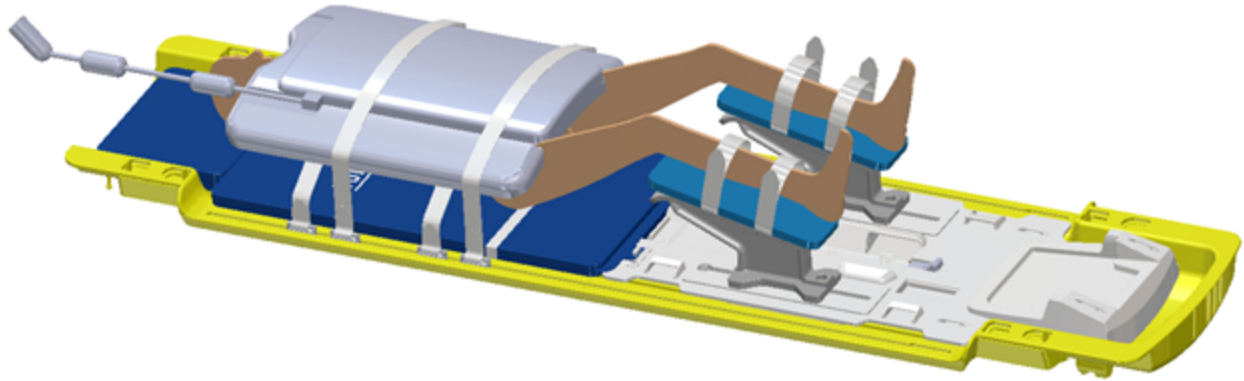

Figure 26: Placement of the anterior imaging coil
3. MRI Technologist: Strap the anterior imaging coil over the patient's pelvis and arms. The coil should cover the prostate, without interfering with the travel of the Positioning System (*Figure 26*).